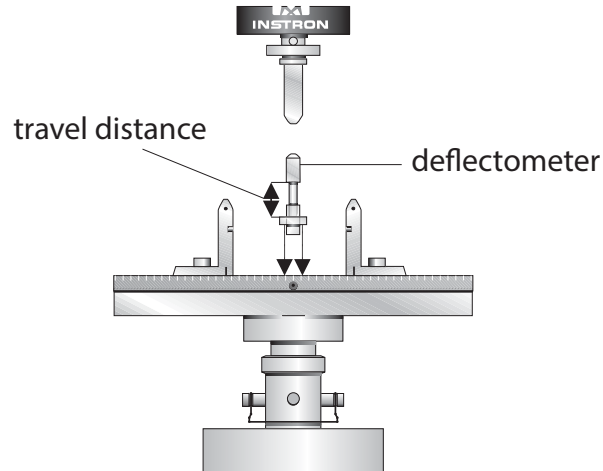

Figure 9. Install the deflector
1. Place the deflector in the center hole, located in the T-slot, as shown Figure 9 on page 24.